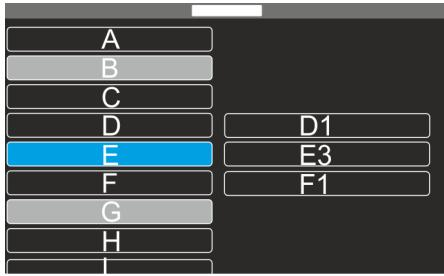

Fig. 26: Setting has been changed
- ⇒ The displayed submenu setting (here Fig. 26/E3) is applied.